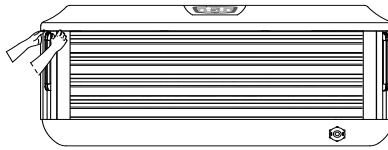
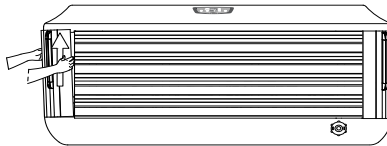

Figure 1
Figure 2
- Grab one of the corner panels, from the top, where it touches the shell. Then gently pull the panel forward to unsnap it from the holding clips, Figure 1. Tilt the panel forward and then lift up to remove, Figure 2. Place the panel in a safe location to prevent from damaging it. Repeat the steps to remove the other corner panel.